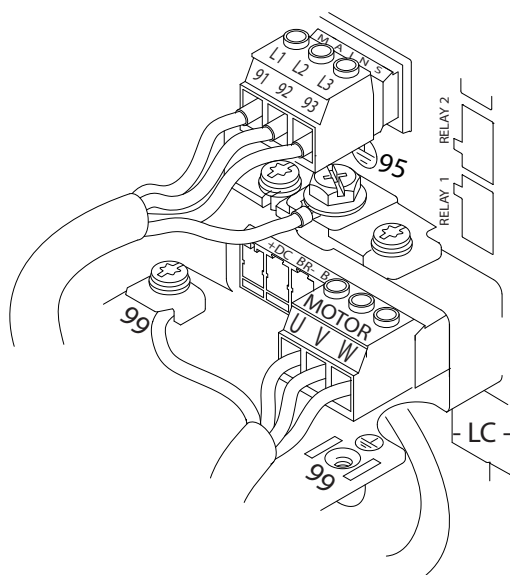

Figure 4.6 Example of Motor, Line Power and Ground Wiring
Figure 4.6 shows line power input, motor and grounding for basic adjustable frequency drives. Actual configurations vary with unit types and optional equipment.
1. Connect the 3-phase AC input power wiring to terminals L1, L2 and L3 (see *Figure 4.6*).